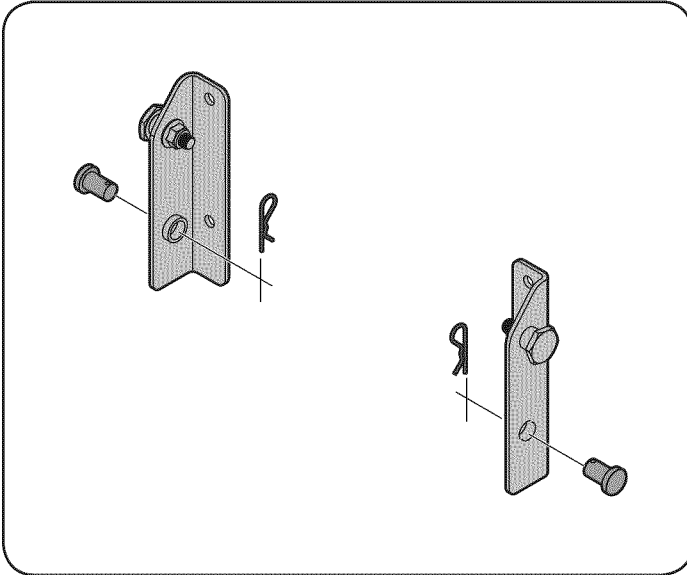

Figure 1
1. If not already installed by the factory, install a shoulder bolt from your hardware pack onto each bracket, securing them with flange lock nuts also included in the hardware pack included with these brackets. Refer to Figure 1.
2. If already installed in the brackets, remove the clevis pins and clips, retain for later instructions. Refer to Figure 1.